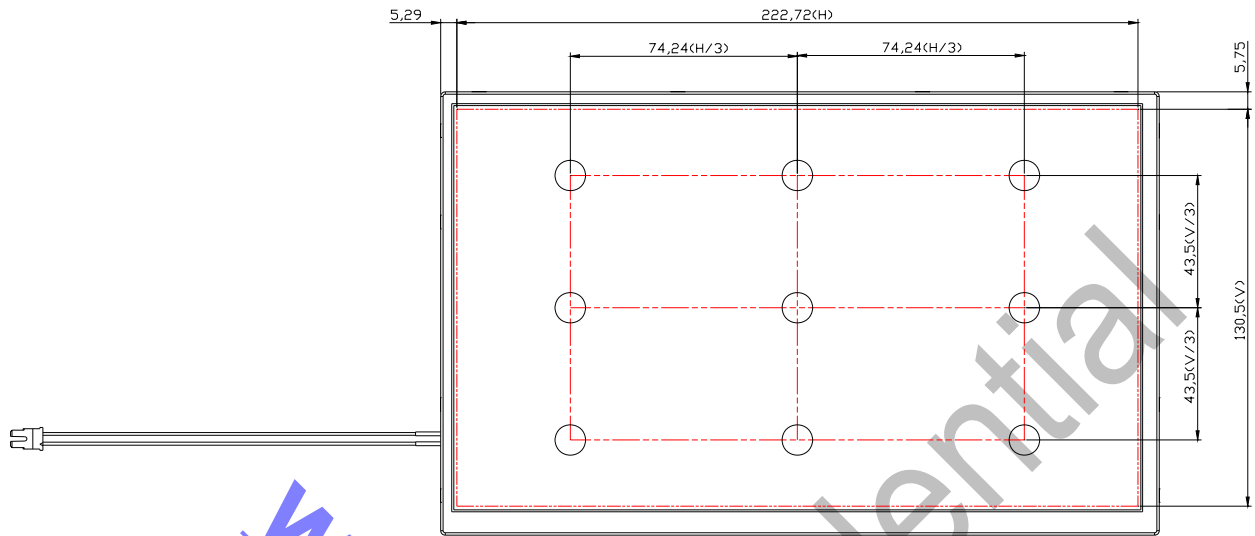

Fig8-1 Measuring point
- 3) Definition of luminance : Measure white luminance on the point 5 as figure8-1
Definition of Luminance Uniformity: Measure white luminance on the point 1~9 as figure8-1